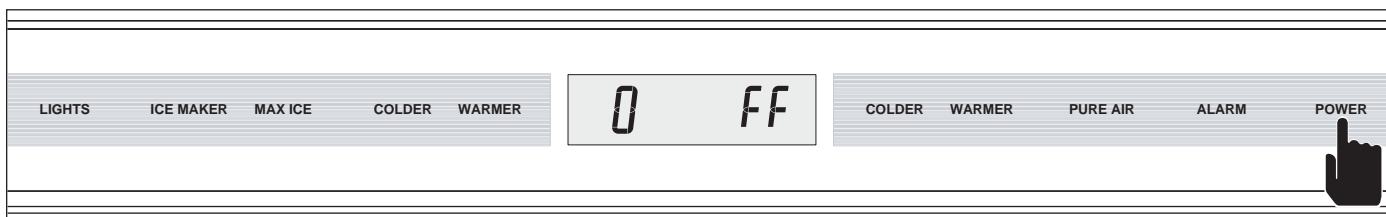
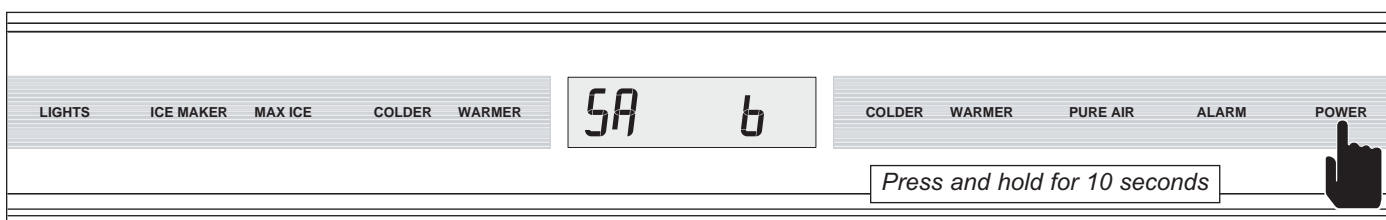

Figure 3-24. To Enter Sabbath Mode, Switch Unit OFF First
Figure 3-25. Then Press and Hold POWER Key for 10 seconds
To initiate Sabbath Mode, the unit must first be switched OFF using the POWER key (See Figure 3-24). Then, press and hold the POWER key for ten (10) seconds, at which time the alarm will chime, and “SA” and “b” will appear in the LCD (See Figure 3-25).